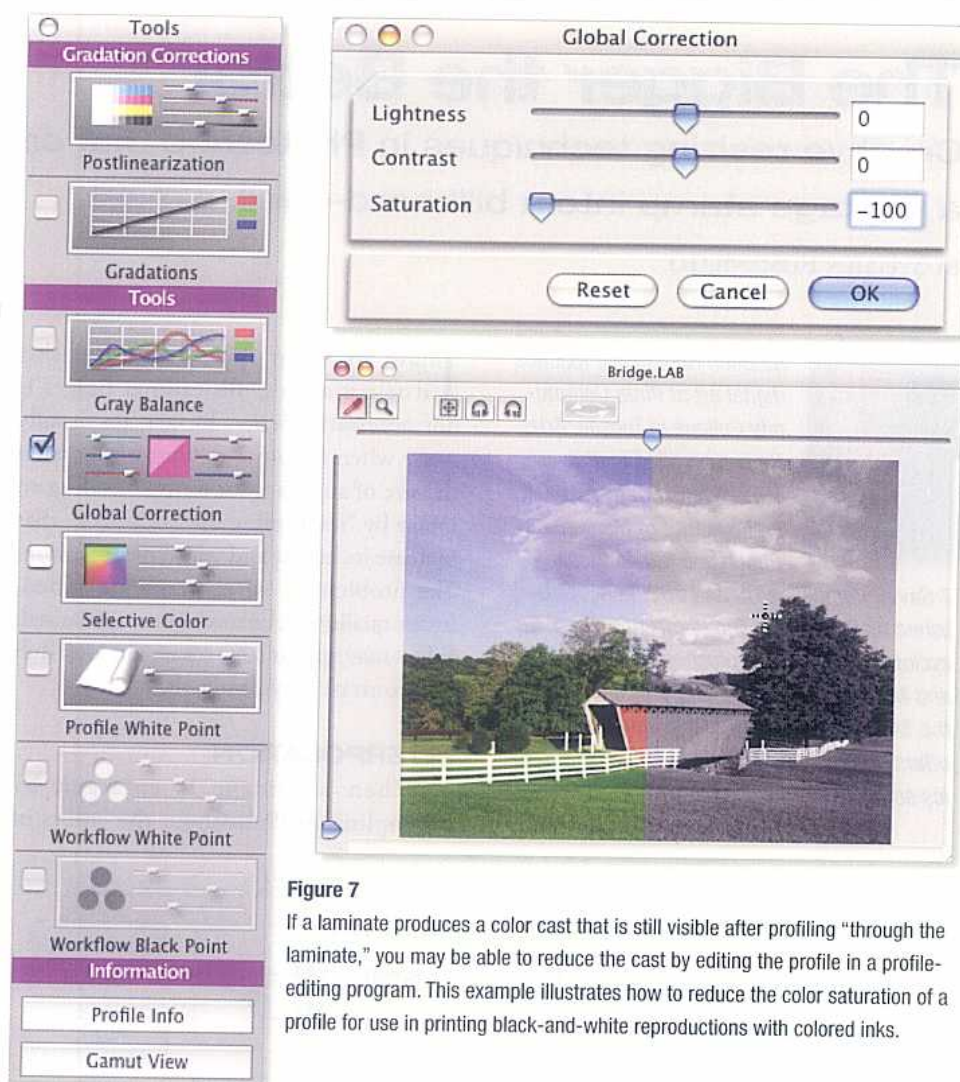

Figure 7
- 2) To remove color from the profile, open the profile in your profile-editing application and reduce color saturation to a minimum (see **Figure 7**). This enables you to print accurate grays using a four-color printer.